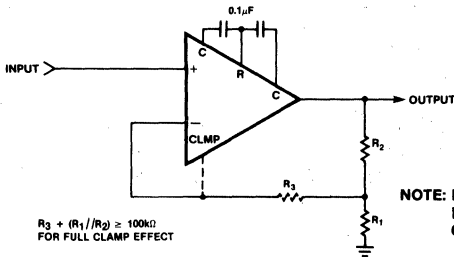

FIG. 2 NON INVERTING AMPLIFIER WITH (OPTIONAL) CLAMP
*USE R3 TO COMPENSATE FOR LARGE SOURCE RESISTANCES, OR FOR CLAMP OPERATION (see FIG. 2)
Clearly the applications of the ICL7650 will mirror those of other op. amps. Thus, anywhere that the performance of a circuit can be significantly improved by a reduction of input-offset voltage and bias current, the ICL7650 is the logical choice. Basic non-inverting and inverting amplifier circuits are shown in Figs. 2 and 3. Both circuits can use the output clamping circuit to enhance the overload recovery performance. The only limitations on the replacement of other op. amps by